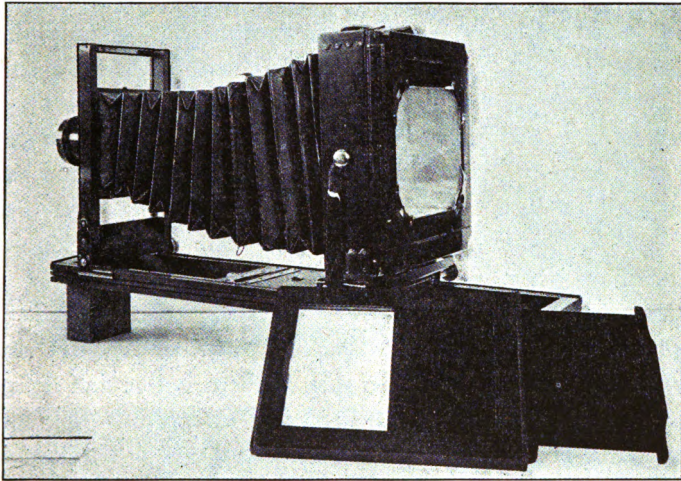

FIG. 92.—CAMERA AND PLATE HOLDER WITH PLATE
**118. Camera.** In the camera (Fig. 92), as used ordinarily to secure small pictures of objects, we have an example of the formation of the image of an object that is beyond the center of curvature. The image that focuses on the screen is real, inverted, and smaller than the object. It is between the prin-